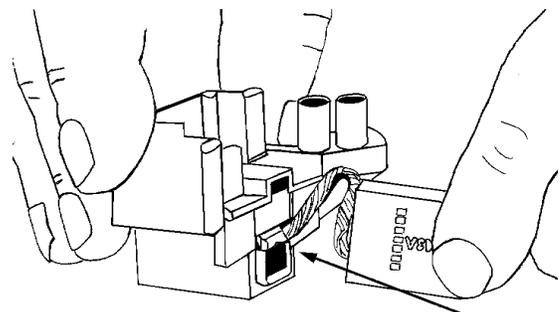

Figure 14
- 7 To put in a new carbon brush, negotiate the terminal on the shunt wire by the spring and brush holder guide. Take care not to damage the spring. See Figure 14.